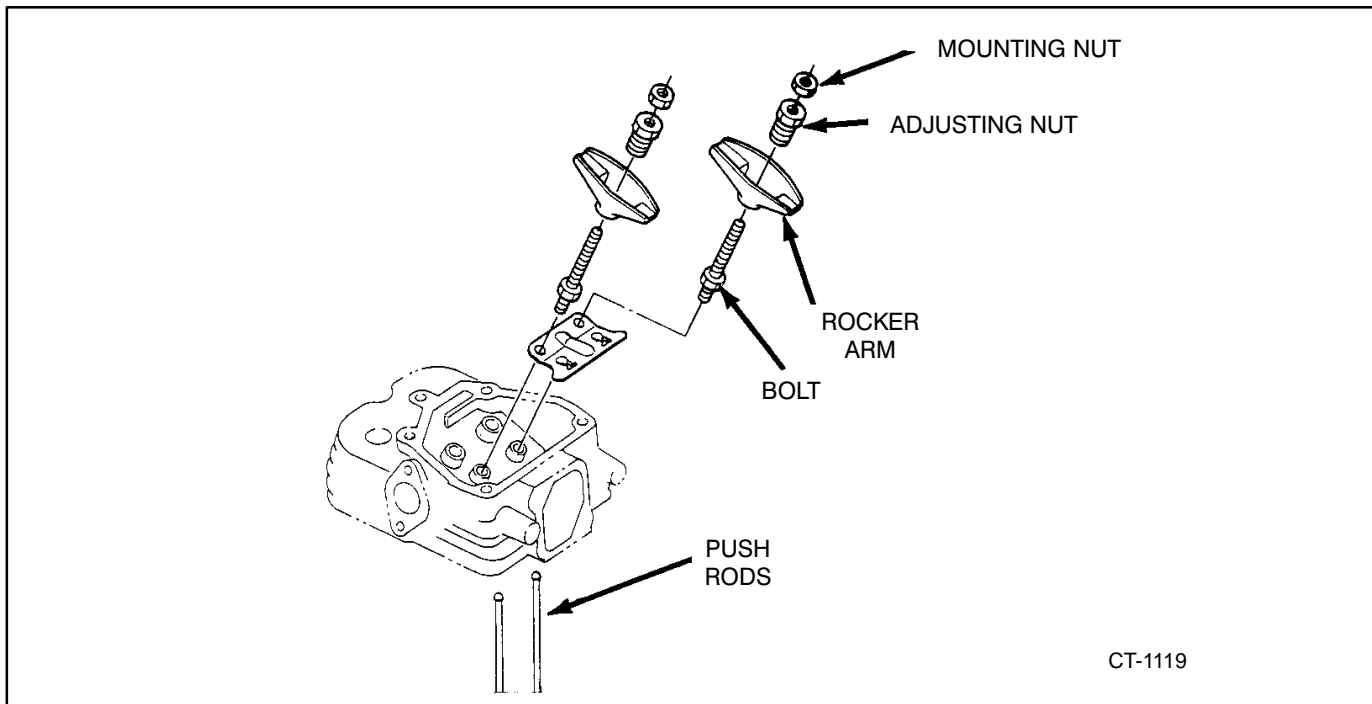

FIGURE 9-2. ROCKER ARM REMOVAL
1. Remove rocker arm mounting nuts, then remove rocker arms and push rods (Figure 9-2).